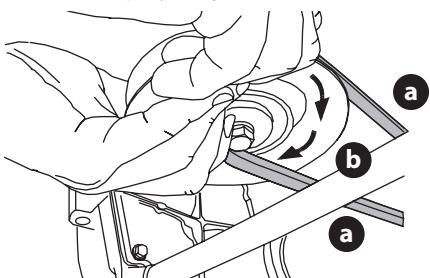

Figure 38
- d. While still holding the PTO belt (a) downward, continue turning the PTO pulley (b) until the PTO belt (a) is rolled off the PTO pulley (b) (Figure 38).
8. Pull the right side of the PTO belt rearward and place the narrow V-side of the PTO belt into the PTO pulley (Figure 38 on page 29).
9. While holding the PTO belt and PTO pulley together, rotate the PTO pulley to the left (Figure 38 on page 29). Continue holding and rotating the PTO pulley and PTO belt until the PTO belt is fully rolled into the PTO pulley.